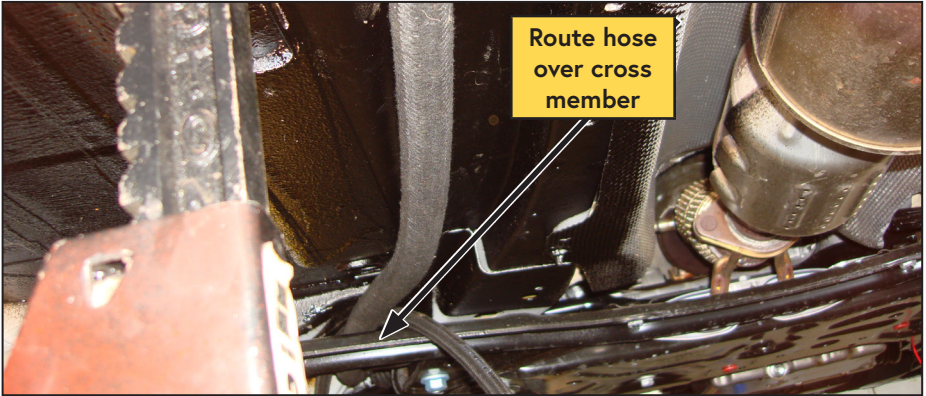

Figure 38 — Hose routing
- Secure the hoses into the floor tunnel using the 2 supplied P-clips and self tapping screws (Figure 38).